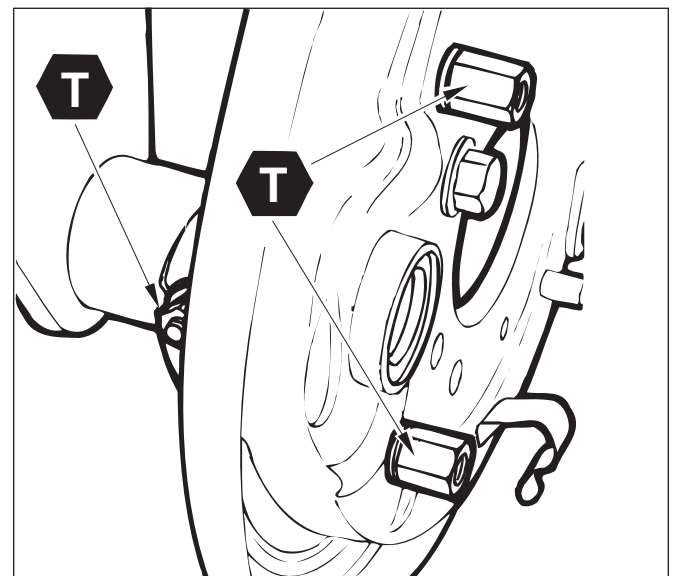

Figure 52 – Air Chamber Bracket Mounting Hardware
3. Position the bracket against the spider and install the lock washers and barrel (or standard) nuts on the mounting bolts. Refer to *Figure 52*.